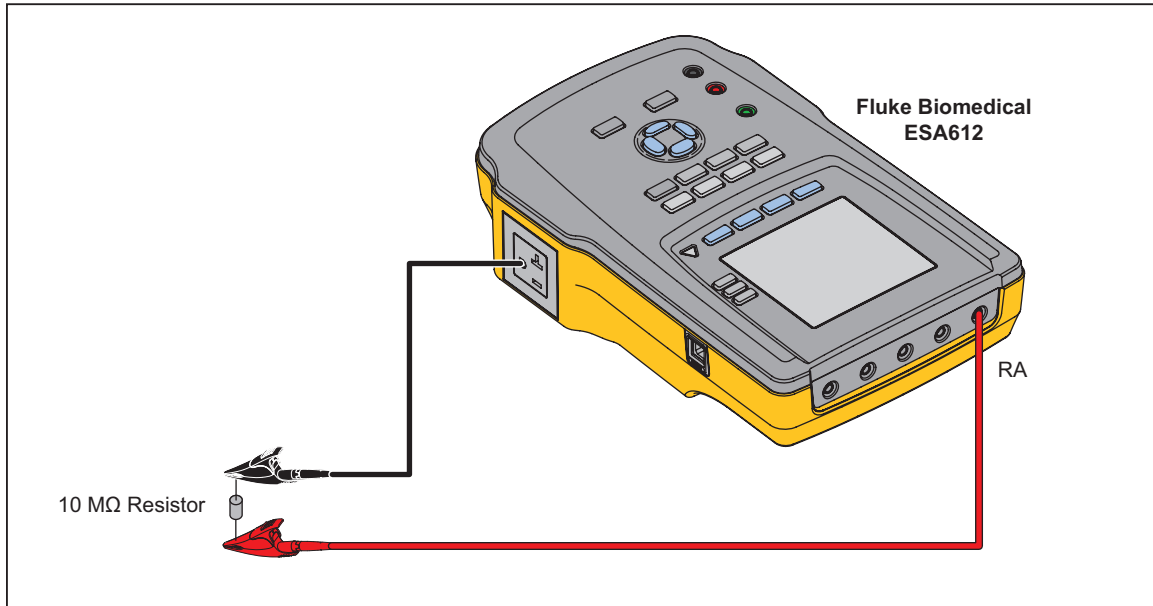

Figure 3-9. AP to PE Verification Connections
34. Disconnect the lead from the EO Neutral and connect it to the RA Applied Part. The other lead should remain connected to the EO ground. Both leads should still be attached to the 10-M Ω resistor. See Figure 3-9.